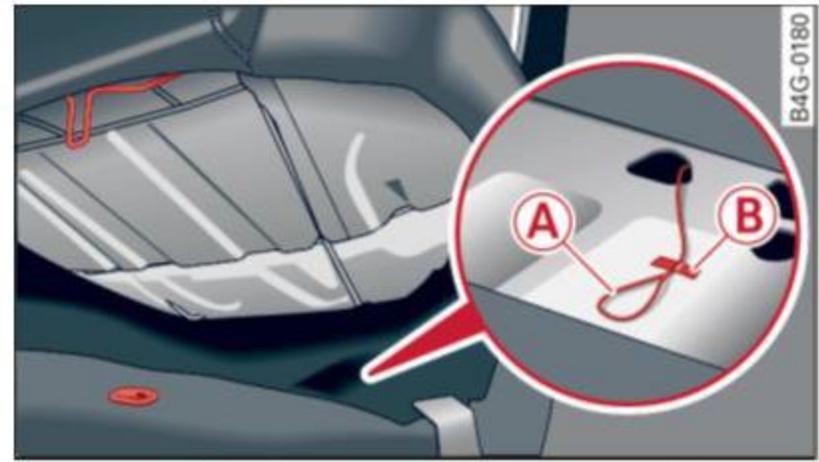

Fig. 31 Rear bench seat: emergency release cable
- ▶ Carefully pull the left side of the rear bench seat out of its retainer until you can reach the release cable ⇒ *fig. 31*.
After opening the rear lid using the emergency release in vehicles with a fixed rear seat backrest, make sure the bracket under the rear bench seat ⇒ *fig. 31* locks securely into the mounting eyelet again.